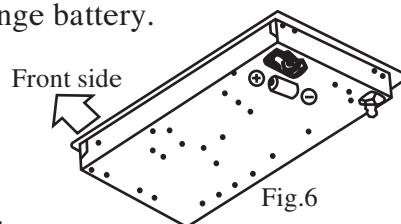

Fig.6
*Battery box is located at bottom of casing (Size ‘C’, 1.5V) (Fig.6)